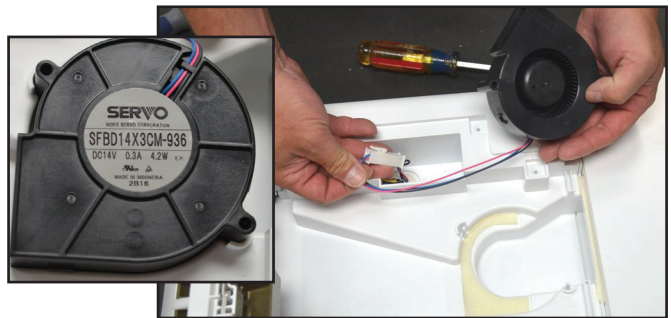

FIGURE 38
12. Lift out the fan motor and disconnect the wire harness. See *Figure 38*.